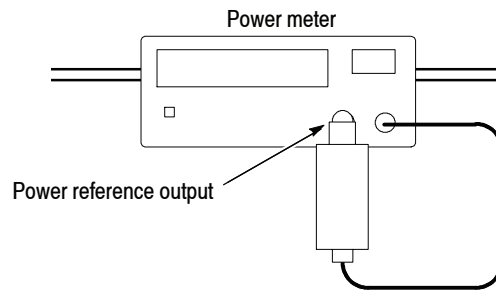

Figure 4-3: Hookup for calibrating the power sensor
- a. *Modify the hookup:* Connect the power sensor input to the power reference output of the power meter (see Figure 4-3).